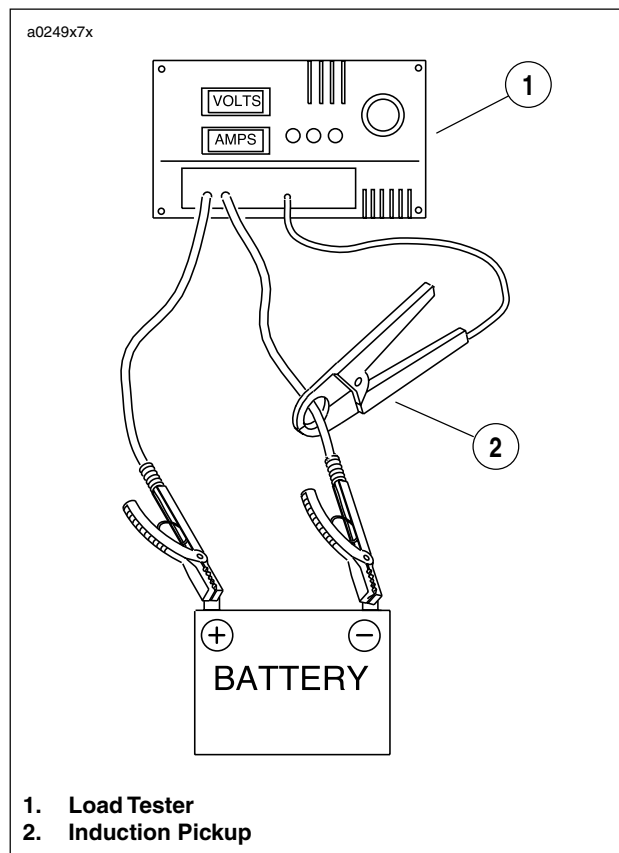

Figure 7-60. Load Test Battery
3. Connect tester leads to battery posts and place induction pickup over negative (black) cable. See Figure 7-60.
4. See Figure 7-60. Load battery at 50% of CCA rating using the load tester. Voltage reading after 15 seconds should be 9.6V or more at 70° F. (21° C).